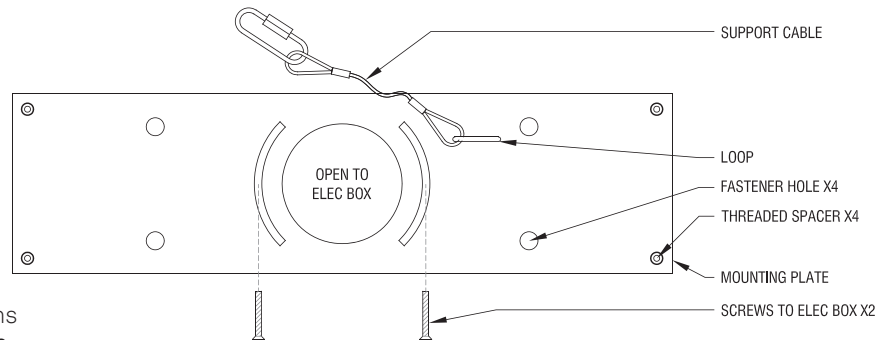

Figure 2. Install mounting plate
- 4 Position the mounting plate over the recessed electrical box (Figure 2). The two curved slots are to fasten the mounting plate directly to the box using the holes provided in the box. Determine the final position and orientation of the fixture such that the electrical box is accessible through the central hole in the mounting plate and the curved slots align with the fastener holes of the electrical box - the mounting plate can be fastened to a steel 4" electrical box through the curved slots with two 1" steel 8/32 thread machine screws (provided) as a means of temporarily supporting the plate while orienting the fixture and marking the locations of the other four fasteners. Note that the fixture cannot be supported from the electrical box alone. Fasteners/anchors (not provided) that are appropriate to the ceiling material being fastened to and adequate to support the weight of the fixture **MUST** be installed in all four fastener holes provided in the mounting plate.